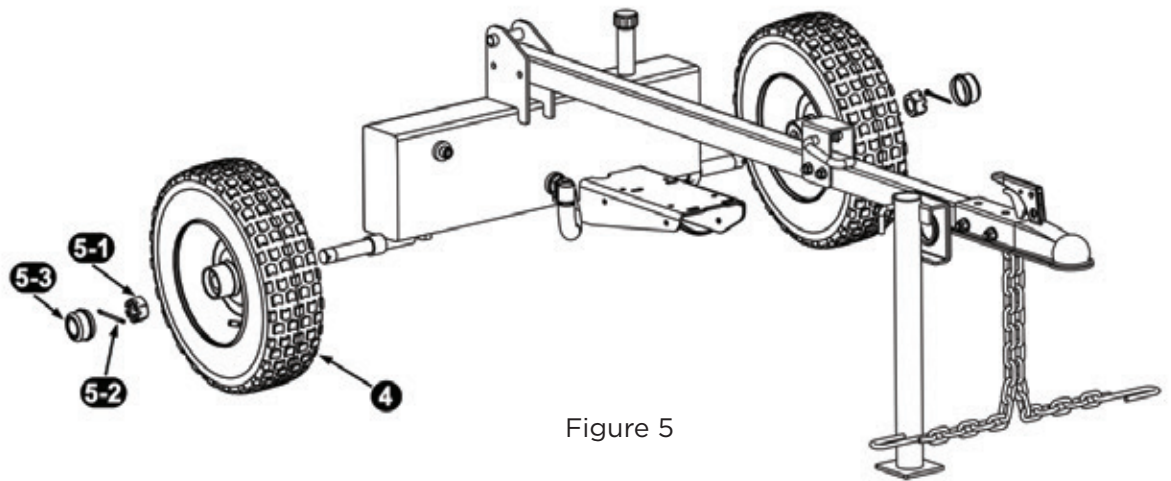

Figure 5
**Step 2:** Install the two wheels. (See Fig. 5).